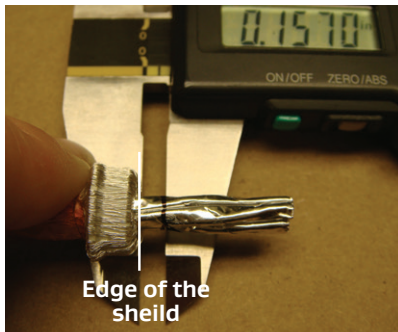

Figure 19: Marking the foil tape
8. Mark the foil tape of each twisted pair at 0.157 inches $\pm$ 0.025 inches from the edge of the braid wire (Figure 19).